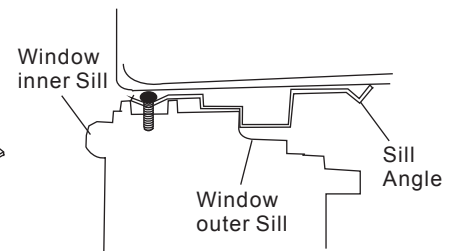

Fig.12
2. Place cabinet in window with bottom sill angle firmly seated over window sill as shown. Bring window down temporarily behind top angle to hold cabinet in place(Fig.12).